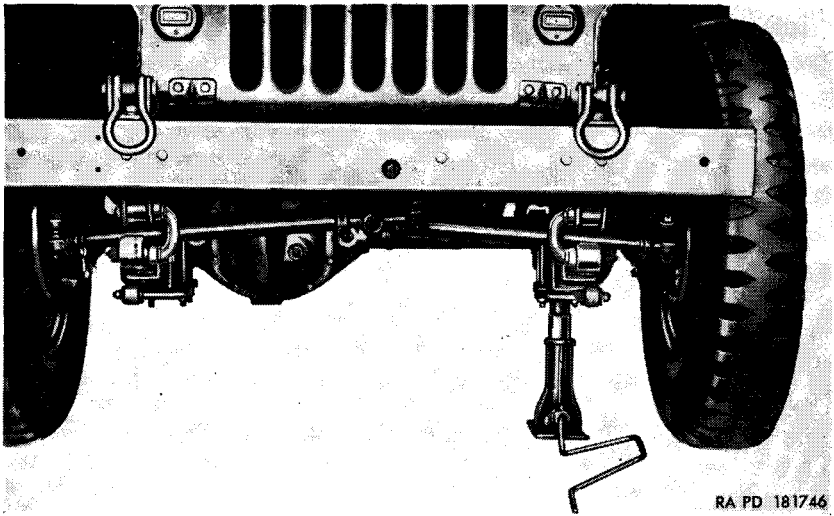
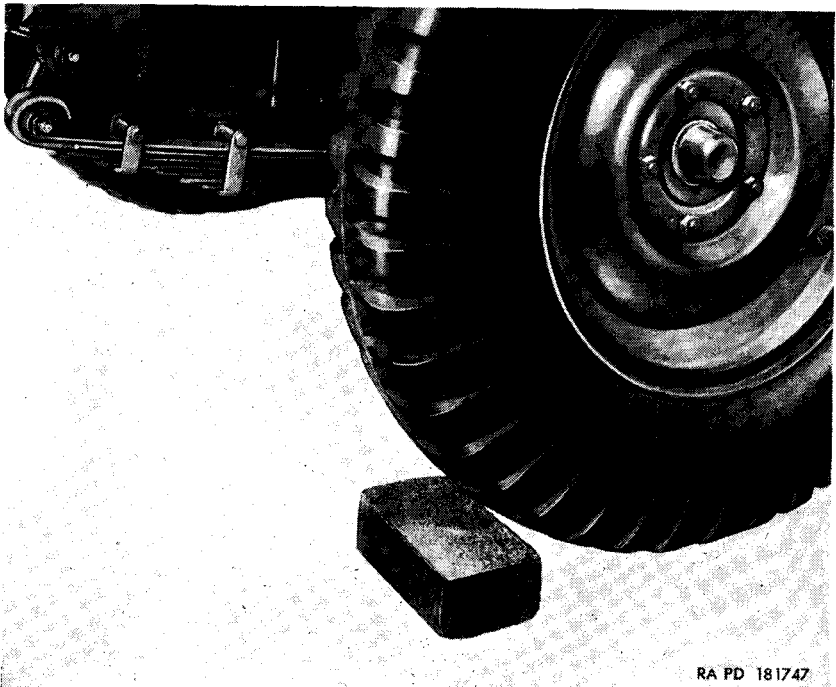

Figure 124. Correct position of jack for wheel removal.
Figure 125. Wheel blocked to prevent vehicle moving during wheel removal.
a. Removal. Loosen five hub nuts (left side vehicle, clockwise—right side, counterclockwise). Jack up vehicle until tire clears the ground (fig. 124). Block other wheels to prevent vehicle from rolling (fig. 125). Remove five hub nuts and remove wheel.